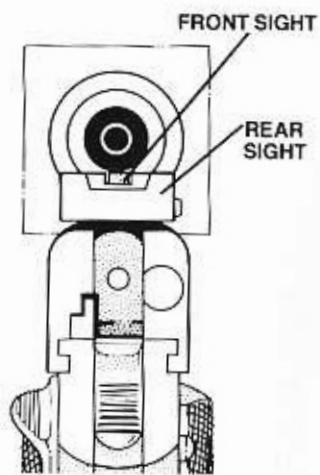

Figure 6 Aiming
3. Grasp pistol by stock and, with index finger resting along the outside of trigger guard, take aim. Aim by aligning target with front and rear sights. (See Figure 6.)